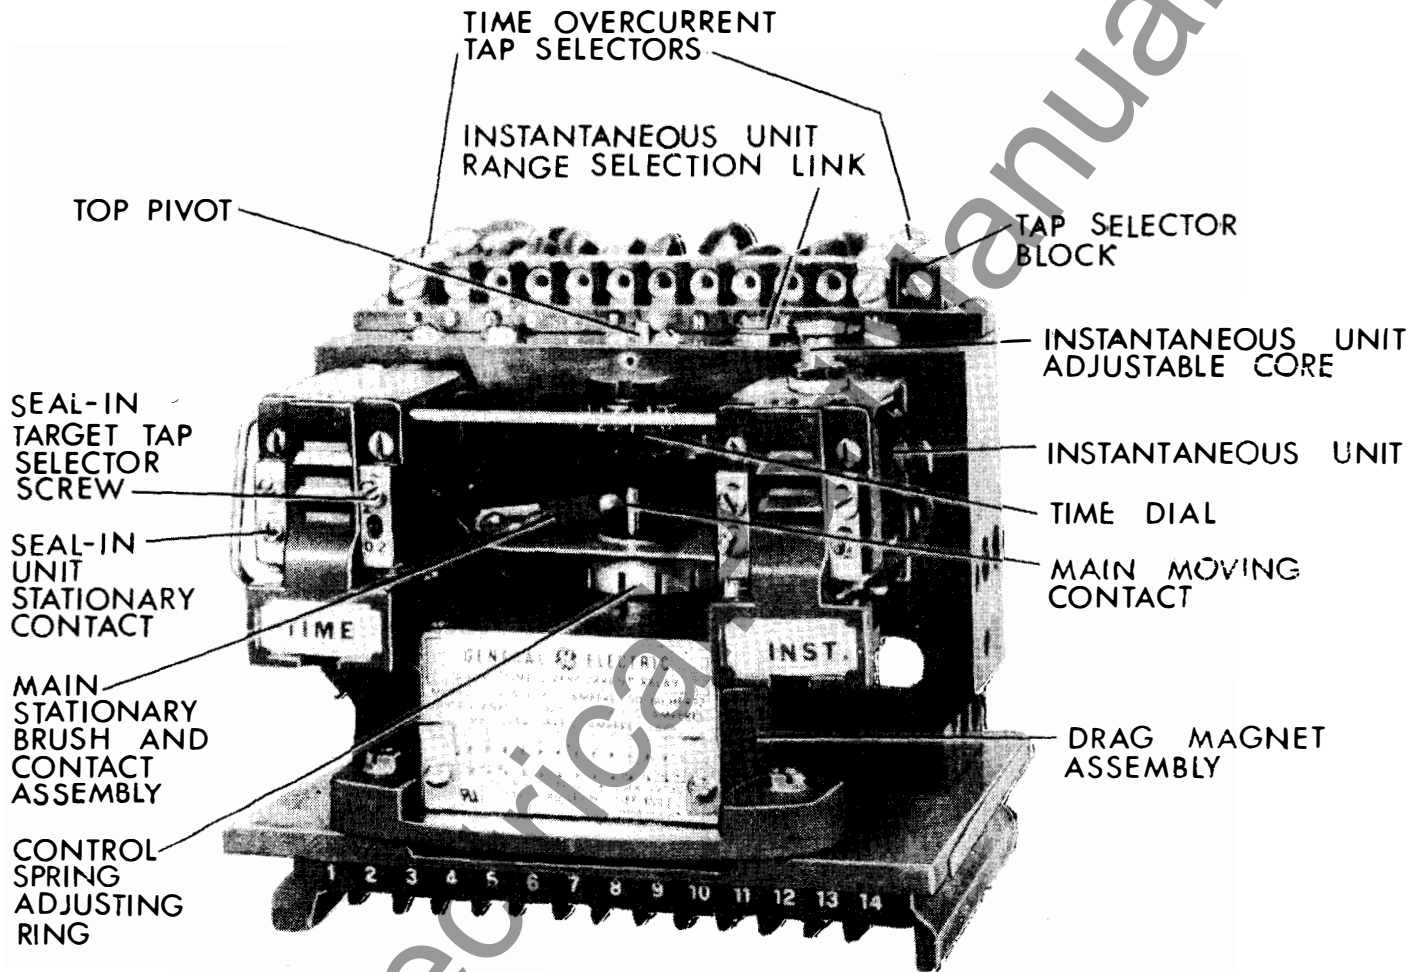

Figure 1 (8043006) Type IFC95BD Relay, Removed From Case, Front View
1. Select the desired range by setting the link in the proper position. (See Figure 1 and the internal-connections diagram.) Whenever possible, select the higher range since it has a higher continuous rating.
Although a time between the listed Minimum and Maximum will be acceptable, it would be preferable to adjust the operating time as near as possible to 0.525 seconds for 60-hertz relays and 0.595 seconds for 50-hertz relays. The drag magnet assembly should be approximately in the middle of its travel. The drag magnet assembly is adjusted by loosening the two screws securing it to the support structure. See Figure 1. Moving the drag magnet towards the disk and shaft decreases the operating time, and moving the drag magnet away from the disk and shaft increases the operating time. The screws securing the drag magnet assembly to the support structure **must** be tight before proceeding with other time checks.